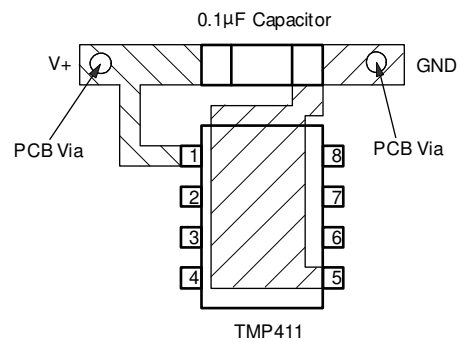

Figure 10-4. Suggested Bypass Capacitor Placement
- Use a 0.1μF local bypass capacitor directly between the V+ and GND pins of the TMP411, as shown in Figure 10-4. Minimize filter capacitance between D+ and D– to 1000pF or less for optimum measurement performance. This capacitance includes any cable capacitance between the remote temperature sensor and the TMP411.